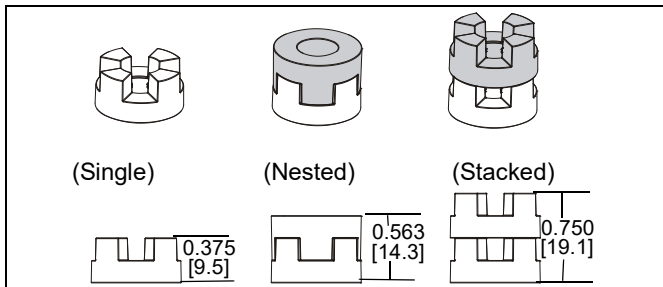

Figure 23
NOTE: The nesting spacers (PI) may be used separately, or put two together in different configurations to create different size spacers. (See Figure 23)